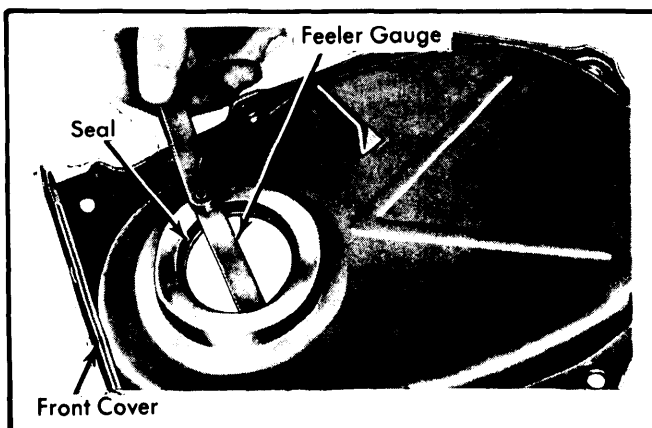

Fig. 14 Using Feeler Gauge to Check Front Cover Seal Installation
**Installation** — Place lip of seal toward rear of engine and use seal installing tool C-3506 to press seal into front cover. Seal is properly installed when neoprene is tight against face of cover. A .0015" feeler gauge should not enter between neoprene face and cover. See Fig. 14.